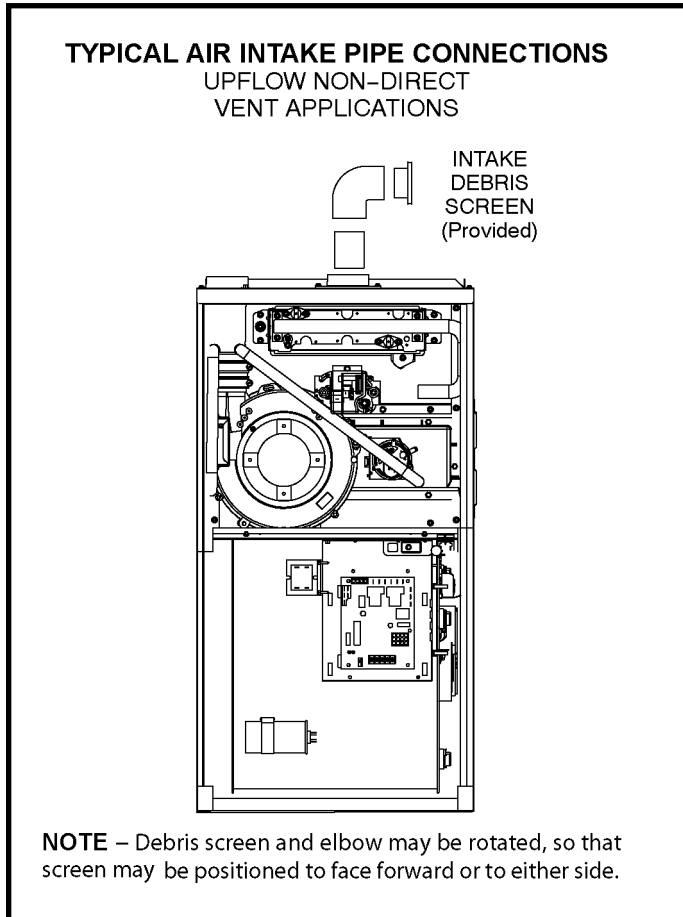

Figure 29
1. Use field-provided materials and the factory-provided air intake screen to route the intake piping as shown in Figures 29 or 30. Maintain a minimum clearance of 3" (76 mm) around the air intake opening. The air intake opening (with the protective screen) should always be directed forward or to either side in the upflow position, and either straight out or downward in the horizontal position.